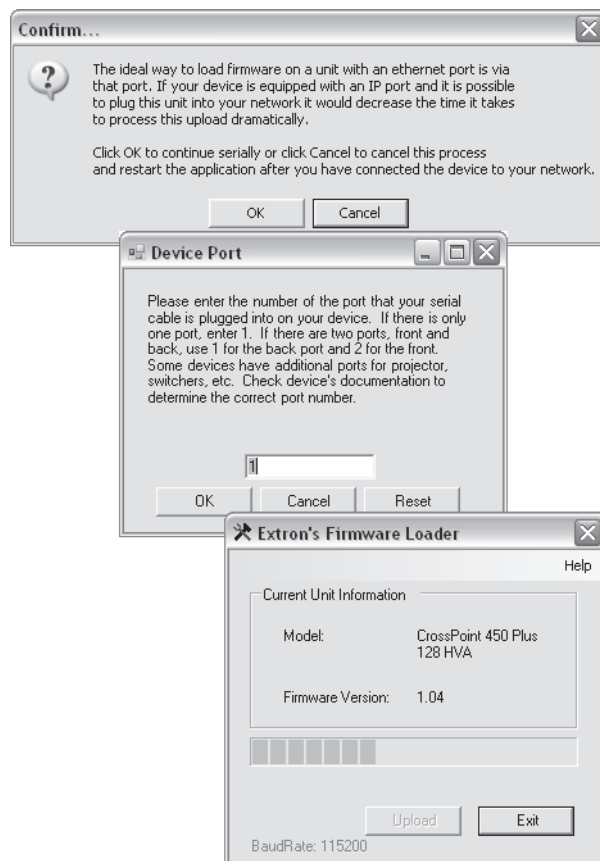

Figure 5-12 — Confirm window
8. Click *Upload*. The File Loader advises you that using the Ethernet (LAN) port is preferred over using either serial port (figure 5-12).